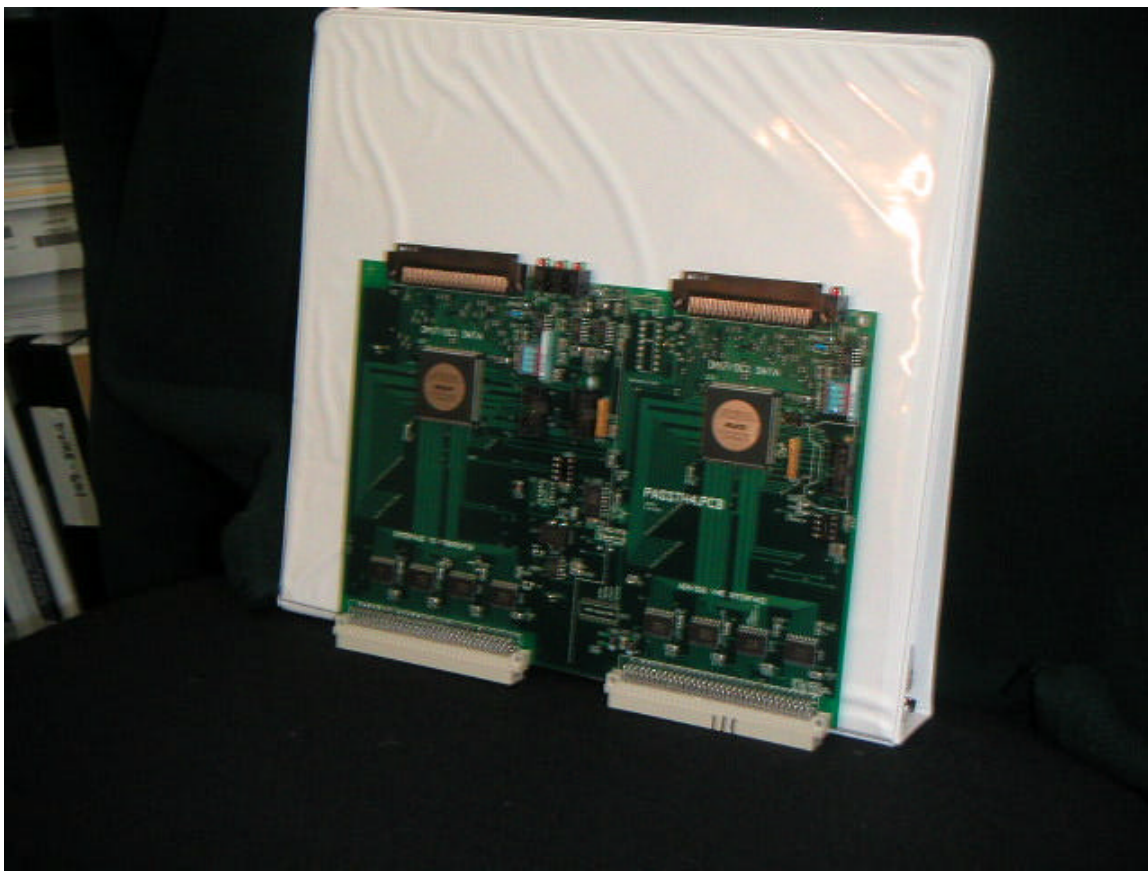

Fig 5. PASSTH4 VME board.
- (5) Qty 1: an APS supplied VME card "PASSTH4", which can be read by a VME host, such as an IOC running EPICS. (FIG 5)